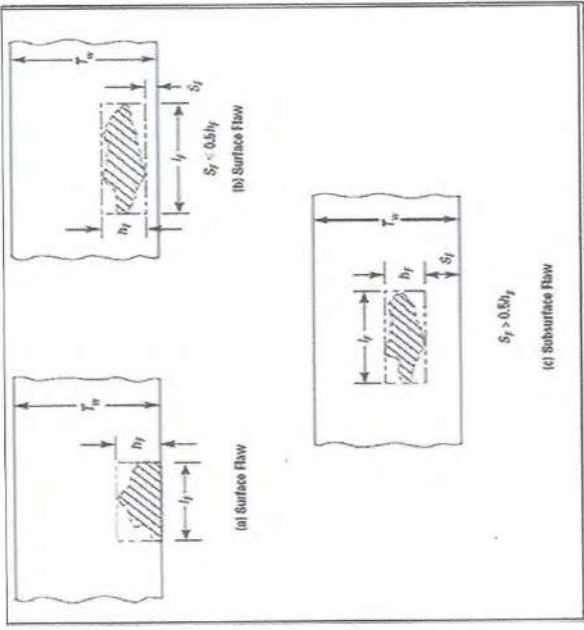

Fig.6 Surface and Subsurface Flaw
- 9.1. A subsurface indication shall be considered as a surface discontinuity if the separation (S in Fig 6.) of the indication from the nearest surface of the component is greater than half the through-wall dimension [h in Fig6., illustration (b)] of the subsurface indication.
- 9.2. A surface indication shall be considered as a surface discontinuity if the separation (S in Fig 6.) of the indication from the nearest surface of the component is equal to or less than half the through-wall dimension [h in Fig6., illustration (b)] of the subsurface indication.